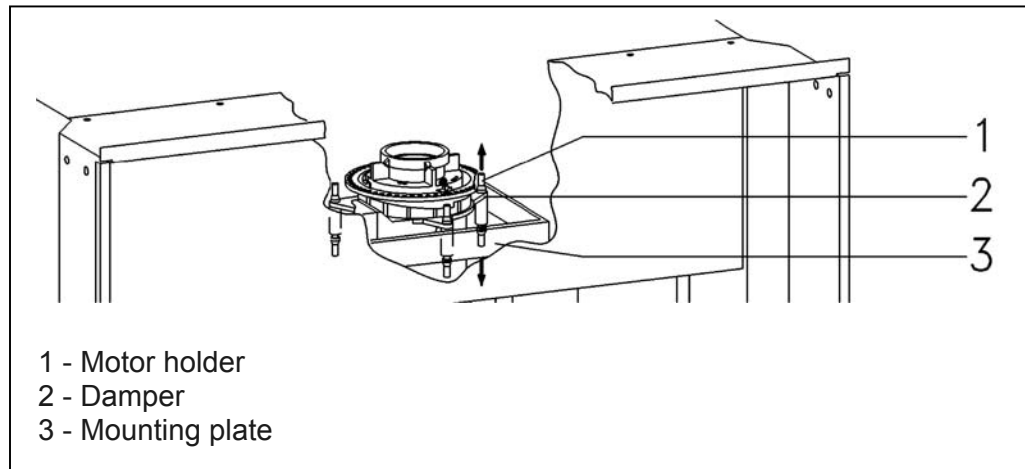

Figure 5-48: Grinder coupling
11. Lift the grinder upwards from the dampers (Figure 5-48 (2)).